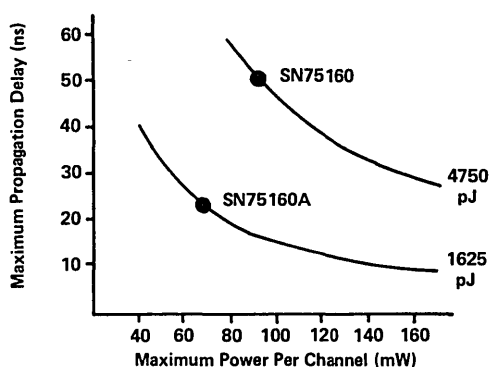

FIGURE 2
The SN75160A is designed to implement the 8-line data bus and is pin-for-pin compatible with the original SN75160 series but with lower power and faster speeds as illustrated in Figure 2. The direction of data flow is controlled by the Talk Enable (TE) input. All eight channels are simultaneously in the receive mode when TE is low, and data is received from the bus and transferred to the bus controller. When TE is in the high state, all eight channels go to the transmit mode, and data will be transmitted onto the bus. Each driver features a totem-pole output which can actively drive the bus high or low to give the fastest data rates possible. The SN75160A has a Pull-up Enable (PE) input which, when taken low, disables the upper stage of all eight driver outputs to turn them into open-collector-type outputs. The open-collector-output mode does not allow data rates as fast as is possible with the totem-pole, but it does allow more than one instrument to be transmitting on the bus at the same time. This feature is used in parallel polling where up to eight instruments may be polled simultaneously, each responding on a single line of the eight-line data bus, thus greatly speeding up the polling process. They may then be switched back to the totem-pole mode for regular data transmission.